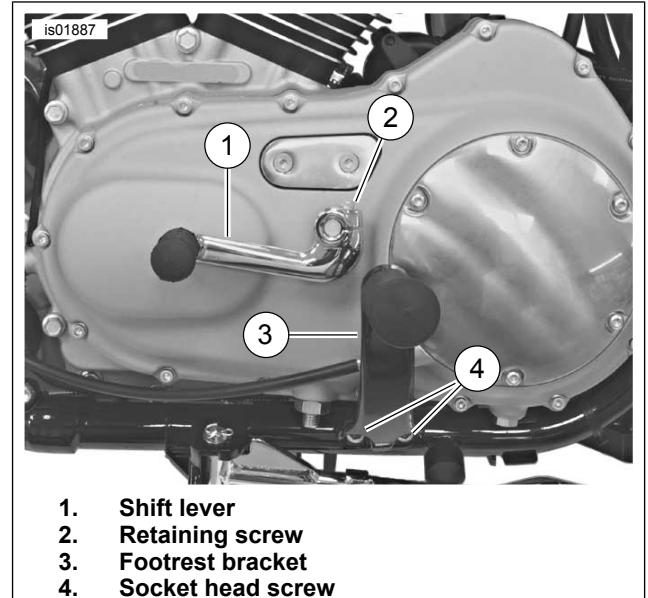
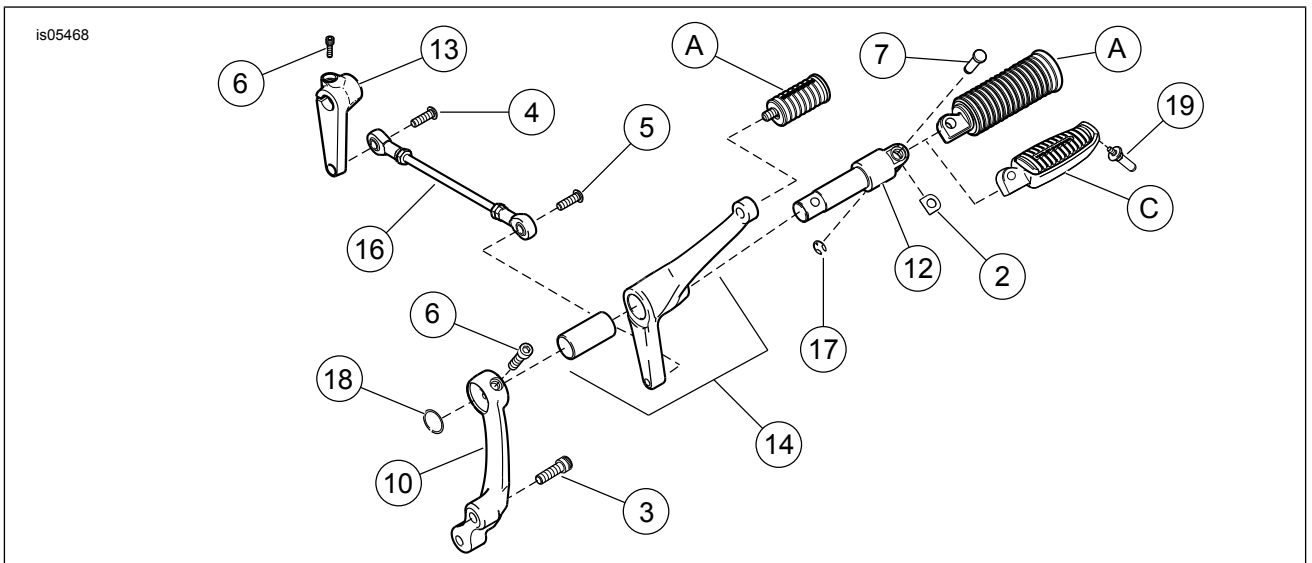
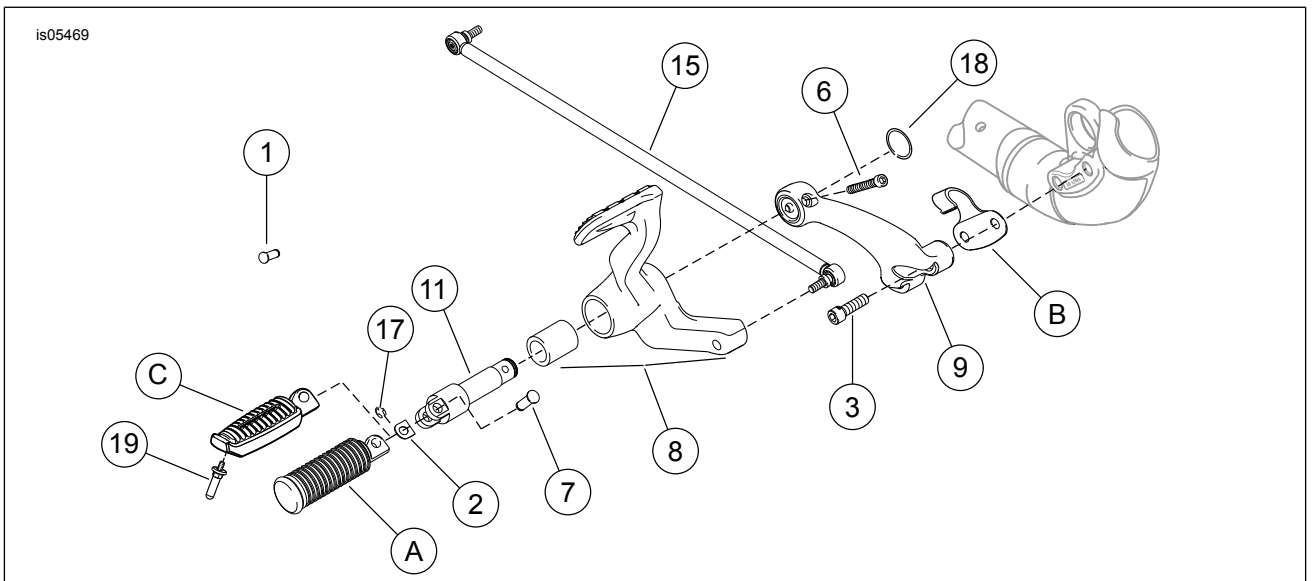

Figure 1. Remove Shift Lever and Footrest
Figure 5. Service Parts: Forward Control Left (Shift) Side
Figure 6. Service Parts: Forward Control Right (Brake) Side
See Figure 5, Figure 6 and Table 1.
1. See Figure 1. Loosen the shift lever retaining screw (2) securing the shift lever (1) to the shifter shaft. Slide the shift lever off the splined shaft. Remove shifter peg from lever and save for installation. Discard shift lever.
2. Remove the two socket head screws (4) securing the footrest bracket (3) to the frame and remove footrest. Discard screws.
3. See Figure 5. Obtain two hole plugs (1) from kit and firmly press plugs into frame screw holes remaining from footrest removal.
2. Remove brake rod (5) from brake pedal and master cylinder bell crank. Discard brake rod.
3. Remove the two screws (6) and right footrest/brake pedal support bracket with attached brake assembly from frame. Discard footrest support bracket and entire brake pedal assembly.
4. See Figure 5 and Figure 6. Obtain hole plugs (1) and install in holes left from support bracket removal.
1. See Figure 6. At the lower front of the right frame downtube, remove the two screws securing the J-clip (B) to the frame. Discard the screws but save J-clip for installation.
2. Obtain the new footrest/brake pedal support bracket (9), new brake pedal assembly (8), footrest mount clevis (11), screw (6) and footrest mount clevis retaining ring (18) from kit.
3. Slide the brake pedal (8) onto footrest mount clevis (11) then slide clevis into footrest/brake pedal support bracket (9). Align hole in the clevis with hole in the support bracket and install screw (7). Tighten the screw to 24.4–29.9 N·m (18–22 ft-lbs).
4. Install the footrest mount clevis retaining ring (18) to the groove at the end of the footpeg clevis.
5. Obtain the two new footrest/brake pedal support screws (3) from kit.
6. Position the J-clip (from Step 1) against the frame aligning the mounting holes. Mount the footrest/brake pedal support bracket (9) and J-clip to frame using the new screws (3). Tighten the bracket to 61.1–67.9 N·m (45–50 ft-lbs).
7. Obtain the brake rod (15) from kit and thread one end into the master cylinder bell crank. Tighten to 13.6–20.3 N·m (120–180 in-lbs).
8. Thread the other end of the brake rod into the brake pedal assembly (8). Tighten to 9.5–16.3 N·m (84–144 in-lbs).
9. See Figure 5 and Figure 6. Obtain the saved footpeg and obtain new spring washer (2), footpeg clevis pin (7) and footpeg clevis retaining ring (17) from kit.
10. Install footpeg on clevis with spring washer (2). Make sure spring washer is positioned inside clevis (11) with the square edge toward the inside. Align holes and push clevis pin (7) from top down through hole in clevis. Secure clevis pin using the new retaining ring (17).
1. See Figure 5. Obtain shift link arm (13) and screw (6) from kit. Orient shift link arm pointing straight down and slide onto shift shaft (exiting engine sidecover). Install screw (6) and tighten to 11–18 N·m (8–13 ft-lbs).
2. Mount footrest/shift pedal support bracket (10) to frame using screws (3). Tighten to 61.1–67.9 N·m (45–50 ft-lbs).
3. Slide shift pedal (14) onto clevis (12). Mount clevis on footrest/shift pedal support bracket (10). Align hole in clevis with hole in support bracket and secure using screw (6). Tighten screw to 24.4–29.9 N·m (18–22 ft-lbs).
4. Install retaining ring (18) to the relief at the end of the clevis (12) to further secure it in place.
5. Thread screw (4) in far end of the shift rod (16) and into shifter arm (13). Tighten to 13.6–20.3 N·m (120–180 in-lbs).
6. Thread screw (5) in opposite end of shift rod (16) into shift pedal (14). Tighten to 13.6–20.3 N·m (120–180 in-lbs).
8. Install footpeg on clevis (12) with spring washer (2). Make sure spring washer is positioned inside clevis with the square edge toward the inside. Align holes and push clevis pin (7) from top down through hole in clevis. Secure clevis pin using the new retaining ring (17).